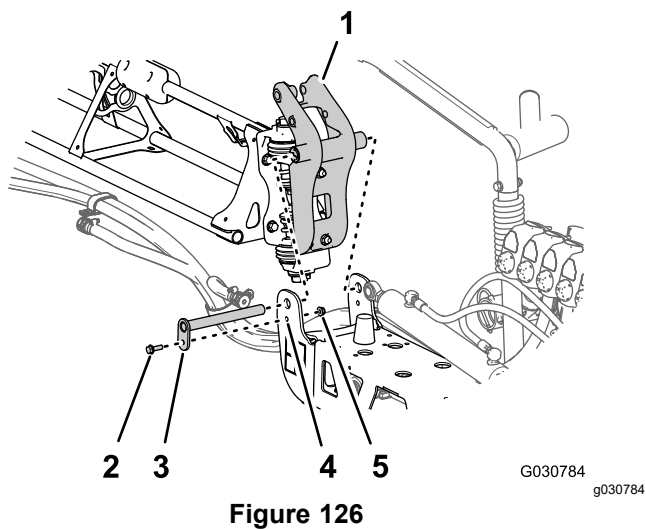

Figure 126
3. Align the bushings in the pivot fitting with the holes in the flanges of the pivot bracket at the end of the center-spray section (Figure 126).